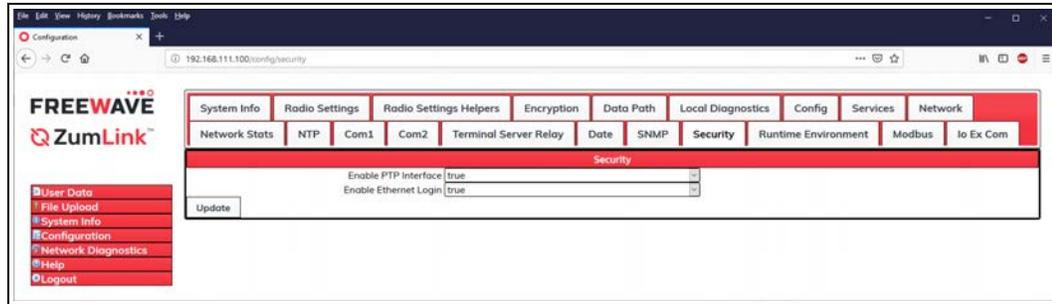

Figure 294: Security window
5. Click the **Security** tab to access the **Security** parameters. Figure 294